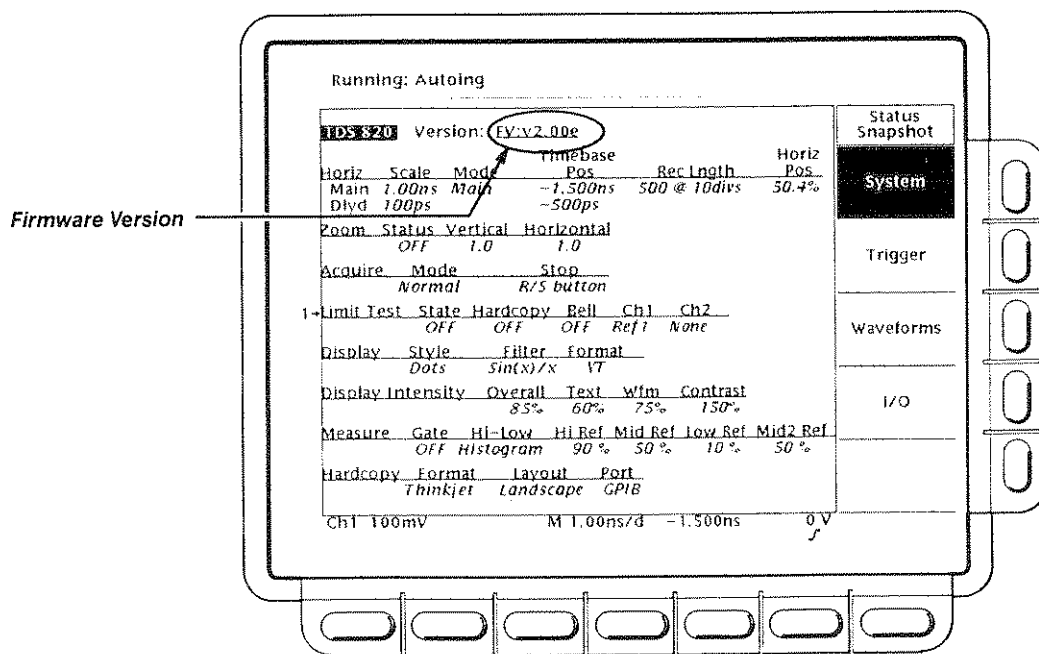

Figure 3-57: Status Menu—System
- Select **System** from the side menu to display information about the Horizontal, Zoom, Acquisition, Display, Measure, and Hardcopy systems (Figure 3-57). This also tells you what version of firmware the oscilloscope is using.